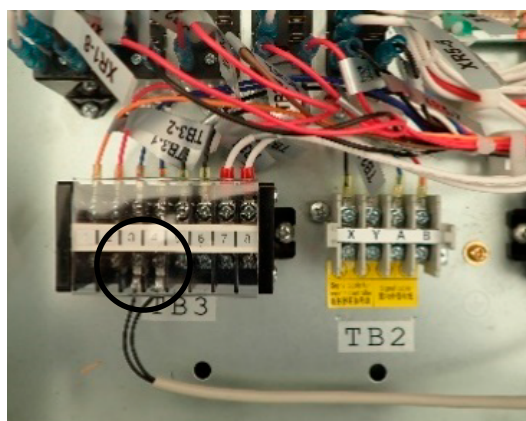

Fig13. Removing terminal screws
(3) Flow switch
- (a) Remove the flow switch terminal screws from control box.(○ mark, Fig.13)